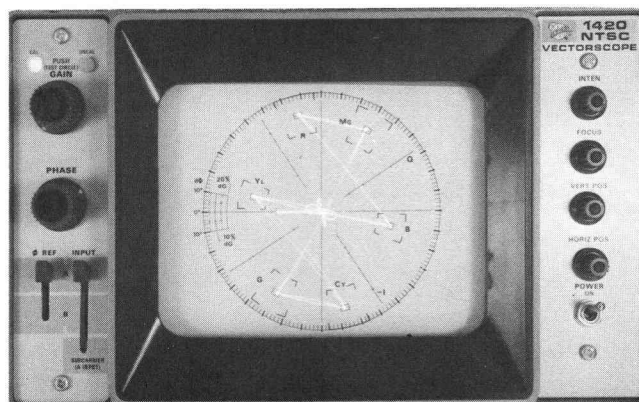

Fig. 3-7. Typical display used when setting Intensity Limit.
- b. Rotate the PHASE control until the chrominance vectors fall in their proper boxes. (See Fig. 3-7.)